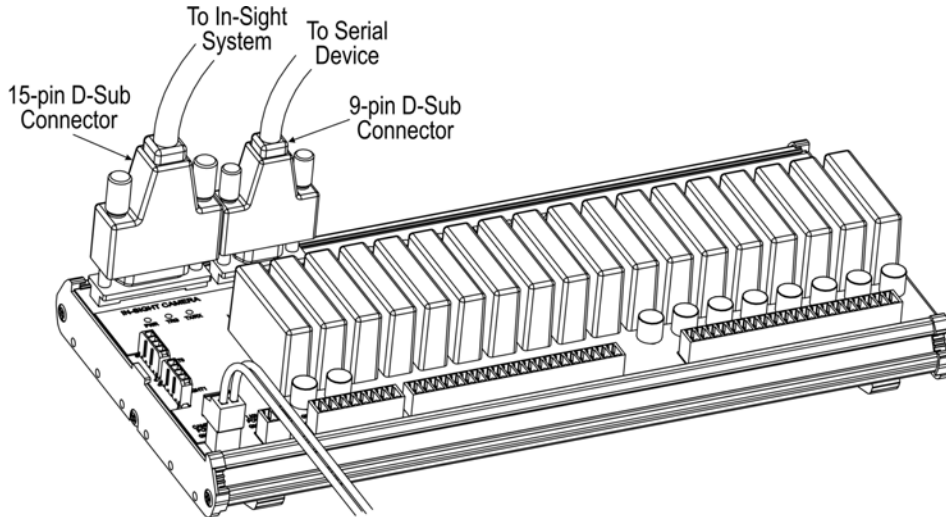

Figure 3-7: Connecting the I/O Cable and Serial Cable
3. Optionally, connect the DB9 male connector of an RS-232 serial cable to the corresponding DB9 female connector on the I/O Expansion Module (Figure 3-7).